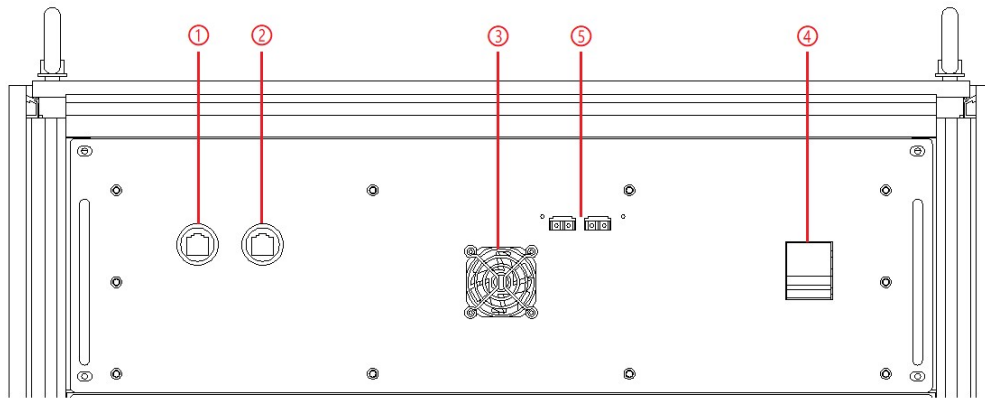

Figure 1-22 Control module of front panel
The master slaver interface is located on the front panel of control box, as shown in Figure 1-22 ⑤.